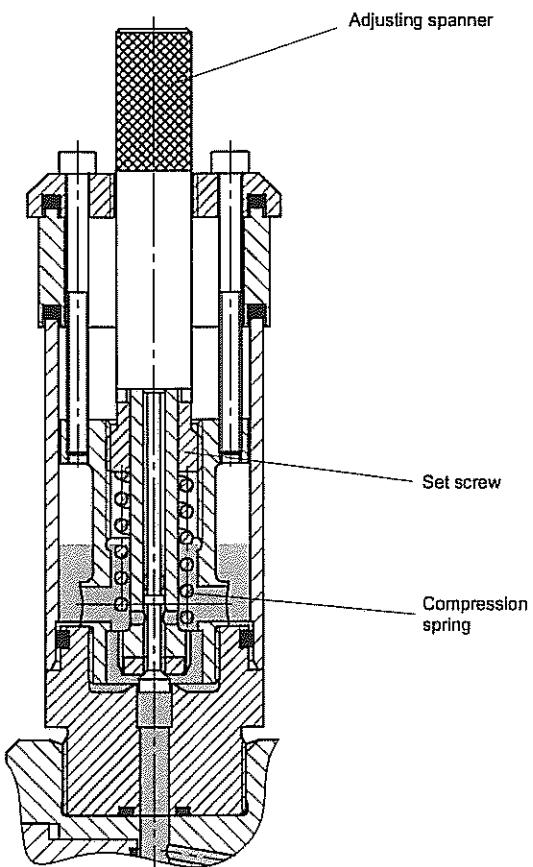

Fig. 47
- Turn slowly the adjusting screw anti-clockwise by means of a adjusting spanner with the pump running (see Fig. 47) until the fluid level in the store tank rises suddenly -> hydraulic discharge valve opens.